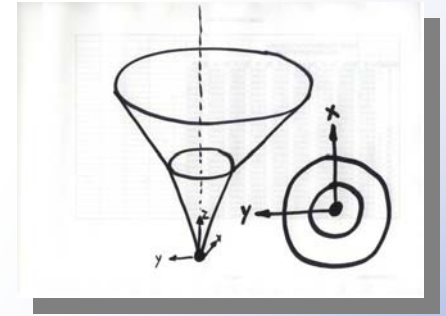

Figure 1
- The user should have something similar to Figure 1.